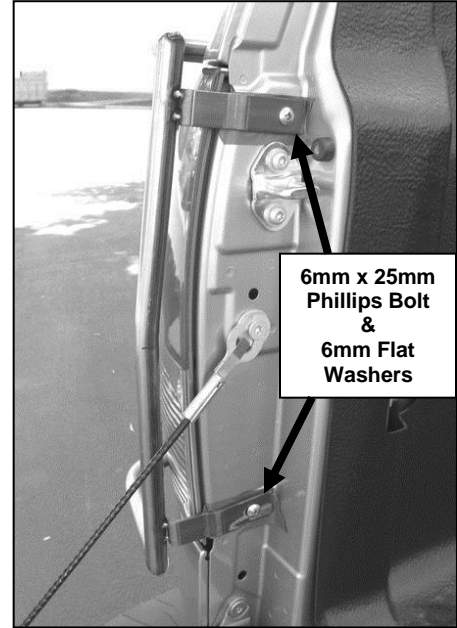

Figure 2
7. Carefully position Taillight Guard onto vehicle. Use the included (2) 6-1.00 x 25mm Phillips Bolts and (2) 6mm Flat Washers to mount Taillight Guard to vehicle (Figure 2). Do not tighten at this time. **NOTE:** If Mounting Brackets don't fit properly, they can be adjusted to fit properly using a pair of pliers.